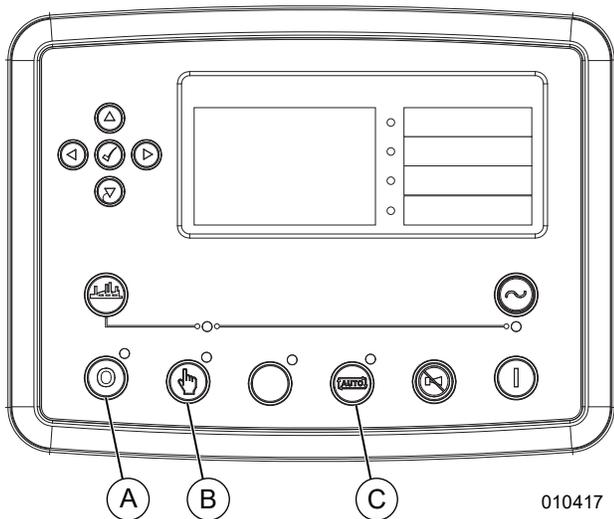

Figure 3-8. Mode Buttons
3. See Figure 3-8. Press the desired Mode button. The controller mode immediately changes, and the corresponding LED illuminates.